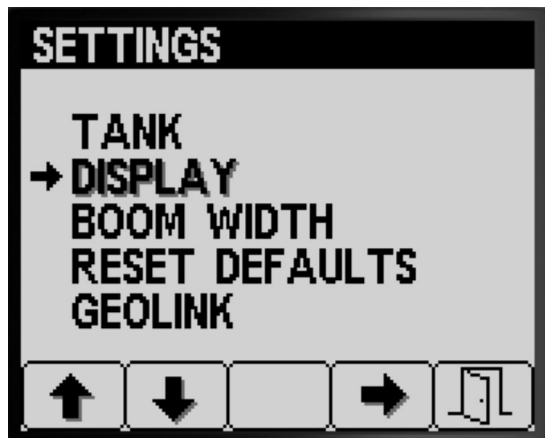

Figure 16
1. Press button 1 or 2 to navigate to the DISPLAY option (Figure 16).
2. Press button 4 to select DISPLAY sub-menu (Figure 16).